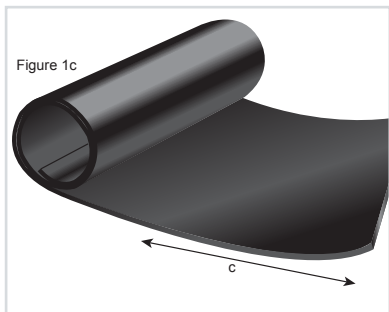

Figure 1c
1. Start by measuring the inner circumference **c** of the spiral duct using a 2" wide strip of the same thickness AP SpiralFlex duct liner being used. Place the strip around the inside of the duct. Be certain that the strip is making good contact with the duct and no gaps are present between the insulation and the wall of the duct. Transfer the **c** measurement along the **long edge** of the AP SpiralFlex roll for each piece (Figure 1c). This allows the cut liner material to follow the natural curvature of the roll and ensuring a tight fit against the inner wall.